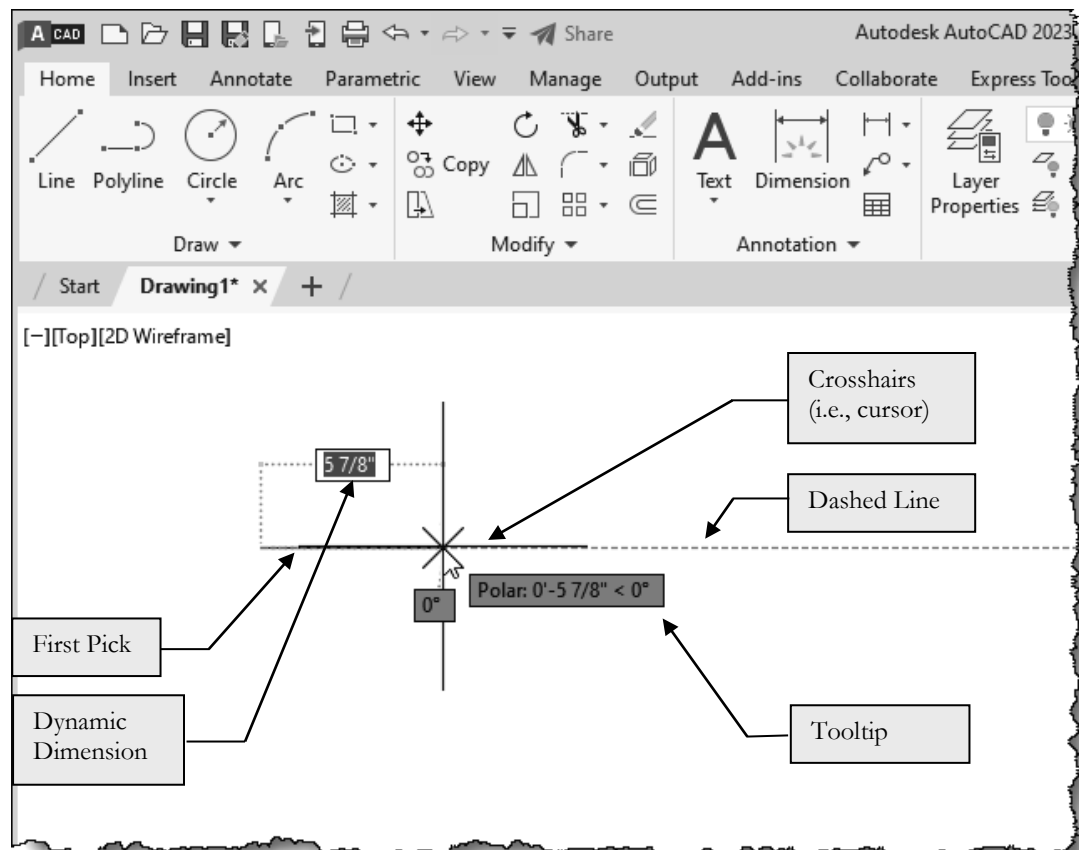

FIGURE 2-1.10 Drawing a line with the help of Polar Tracking
14. Start moving the mouse towards the right and generally horizontal until you see a dashed reference line (extending off the screen in the direction you want to draw the line) appear on the screen as in Figure 2-1.10.